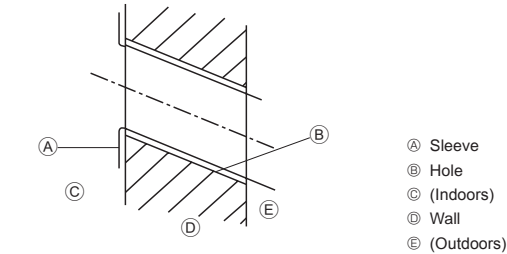

Fig. 3-3
- Ⓐ Mount board ①
- ① Align the scale with the line.
- ② Insert scale.
3.2.2. Drilling the piping hole (Fig. 3-3)